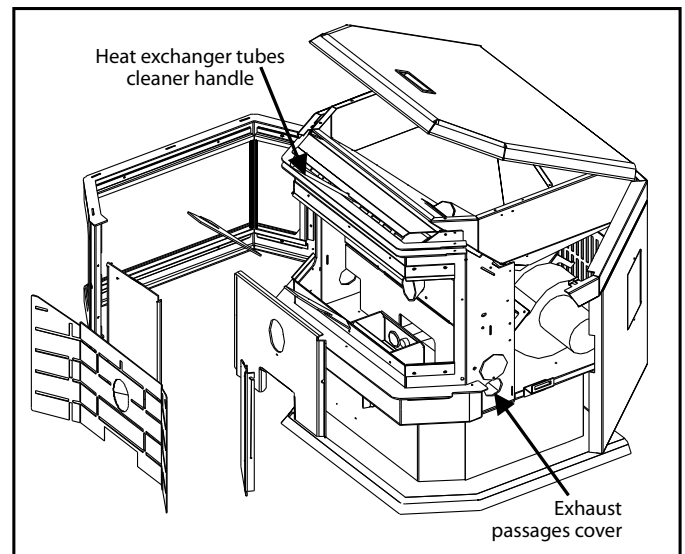

Figure 4: EF4 opened.
For bi-weekly clean out, ash may be removed from behind the steel plates by rotating the circular covers located behind the right and left side panels (see Figure 4). To open the side panels undo one (1) T-20 screw on each side (top front). When the side cabinet doors have been opened, there are two (2) round disks at the bottom of the firebox. Loosen, but do not remove, the screw on the disks and open, this will allow vacuuming behind the firebox liner's plates.
A handle is located under the hopper lid, in the center of the stove just above the door, pointed out in Figure 4. This handle is to be pulled up and down a few times (**ONLY WHEN THE UNIT IS COLD**) in order to clean away any fly ash that may have collected on the heat exchanger tubes. As different types of pellets produce different amounts of ash, cleaning of the tubes should be done on a regular basis to enable the unit to run efficiently.